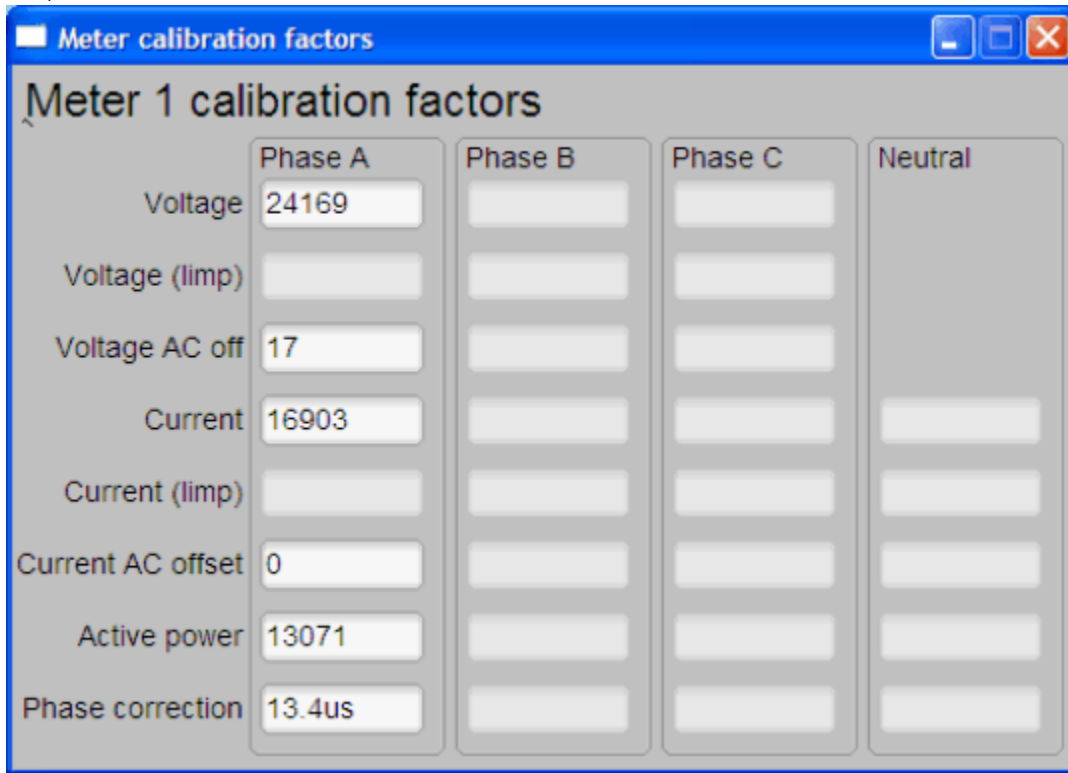

Figure 6-3. Meter Calibration Factor Window
2. Click on the Meter Calibration Factors button, which brings up the Meter Calibration Factors window (see Figure 6-3). The current calibration factor values are shown in this window.